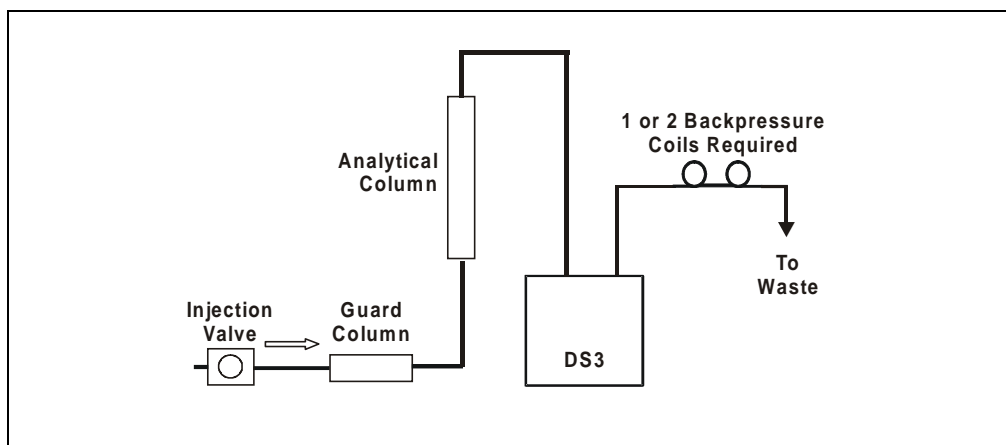

Figure B-6. Nonsuppressed Mode
- Nonsuppressed mode, shown in Figure B-6. Note that conductivity measurements made when no suppressor is in-line may show noticeable baseline drift.